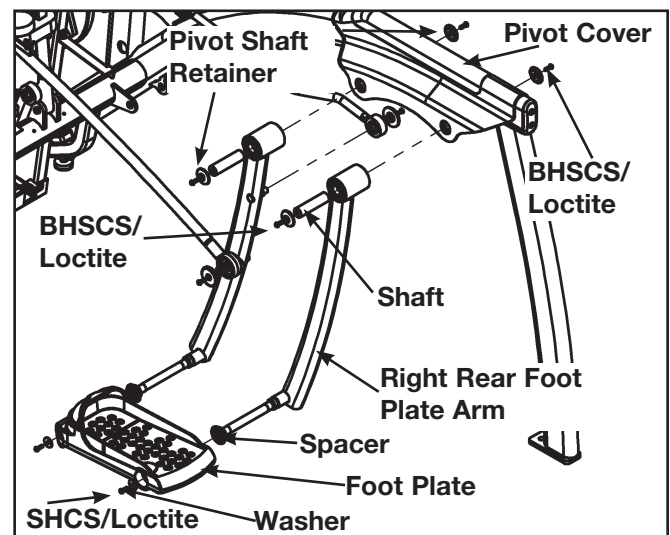

Figure 2
- Turn the main power switch above the power inlet to the off (0) position.
- Using two 7/32" Allen wrenches, remove the two BHSCS and pivot shaft retainers securing Foot Plate Arm to the Pivot Cover and remove the arm from the frame. See Figure 2.
- Using two 7/32" Allen wrenches, tighten both screws securely. See Figure 2.
NOTE: Front arm is shown exploded in Figure 2 but is not removed for this kit.